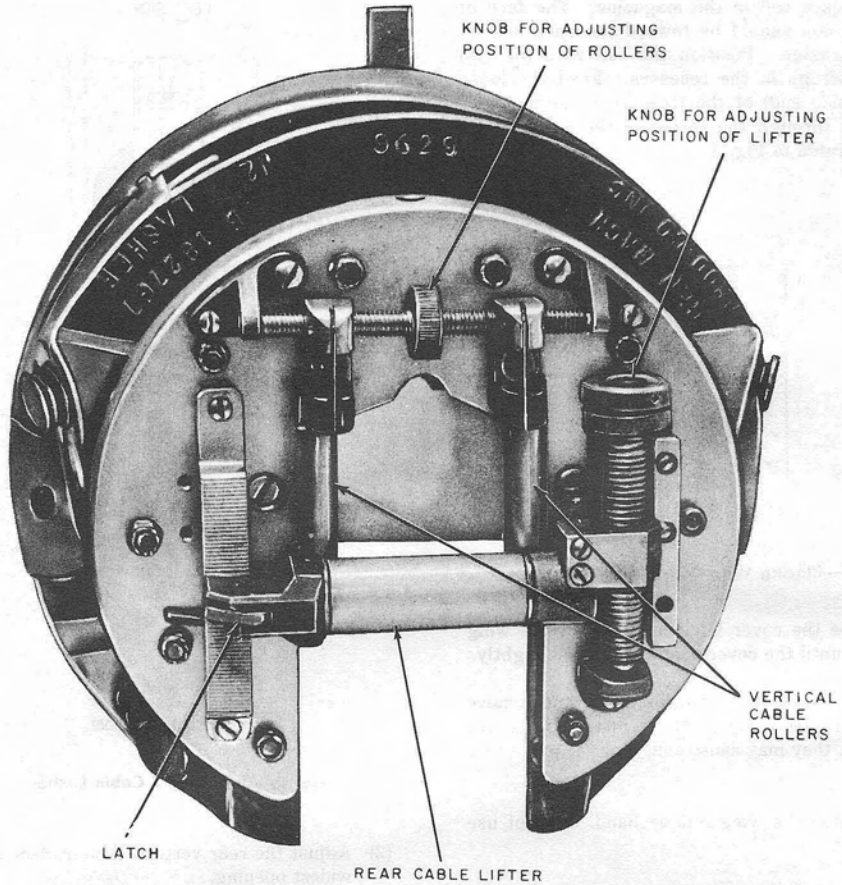

Fig. 3—Rear View of Lasher
- (2) Adjust the rear vertical cable rollers to their widest opening.
- (3) Open the rear cable lifter (Fig. 3) and adjust it to the lowest position.
(8) Raise the cable to the strand, close the rear cable lifter, and let the cable rest on the roller. Estimate the amount the roller should be raised to elevate the cable to within 1/4 inch of the strand. Open the cable lifter, lower the cable clear of the opening, and turn the adjusting knob on top of the vertical threaded post until the lifter is raised the desired amount. Raise the cable and close the lifter. Adjust the position of the vertical cable rollers to contact the sides of the cable. These adjustments need not be changed as long as the same diameter cable is being lashed. These adjustments are illustrated in Fig. 3.
(9) Pull out sufficient lashing wire for terminating and terminate the lashing wire on the strand.
(10) Close the pulling plate gate and the gate of the lasher guard, if used.
(11) Attach the bridle assembly.